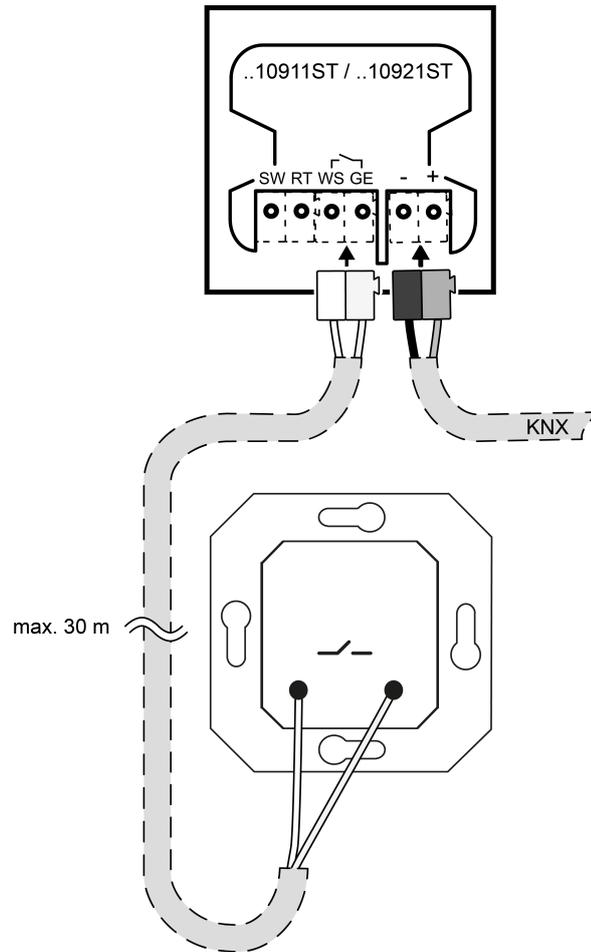

Figure 5: Connecting installation push-button
- Optional: Connect external switching contacts (e.g. push-button or reed contacts) to the connection terminal (Figure 5).
**Connecting external switching contacts (Figure 5)**